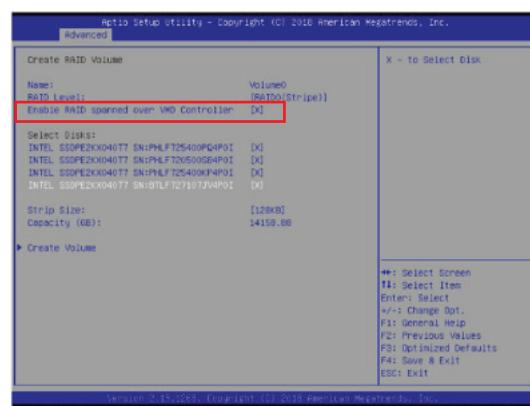

Figure F-4. Created Volume with enabling RAID spanned over VMD controller
11. If cross-controller RAID is required, select **Enable RAID spanned over VMD Controller** as shown in Figure F-4.